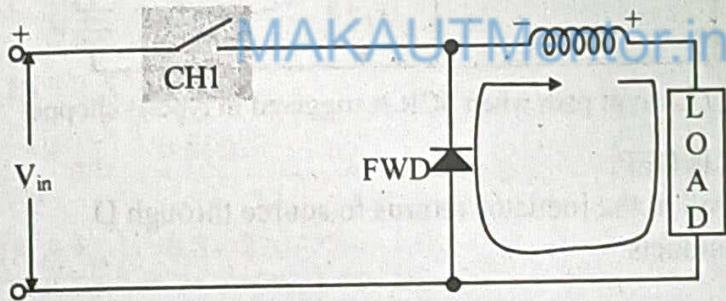

Fig: 4 Chopper circuit when SCR is off and the current path
- Current will flow through free wheeling diode (FWD), L and Load. The direction of current through the load will remain the same (Fig. 4).